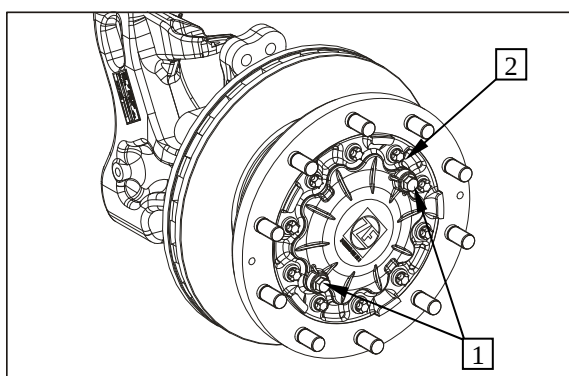

Figure 38
5.3 Fitting of brake (Figures 38 to 40):